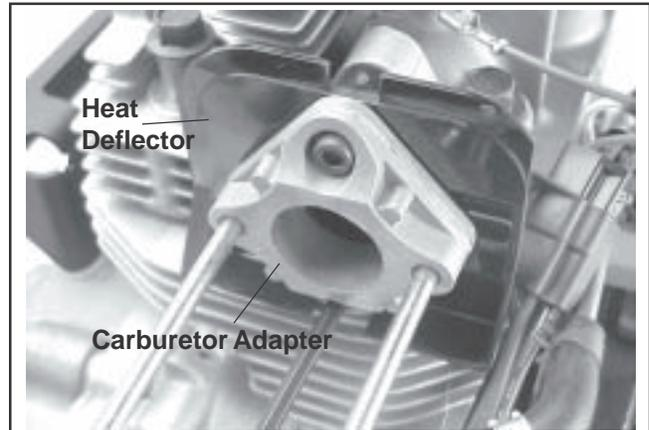

Figure 11-38. Installing Carburetor Adapter & Heat.
1. Install the heat deflector, carburetor adapter, and gaskets to the cylinder head intake port with the two allen head capscrews. Torque the screws to **9.9 N·m (88 in. lb.)**. See Figure 11-38.